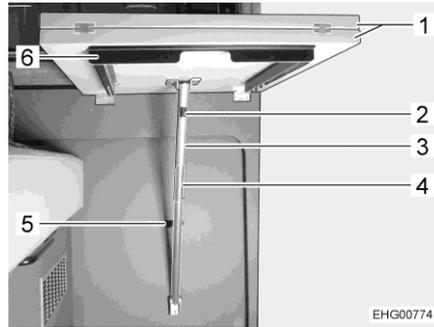
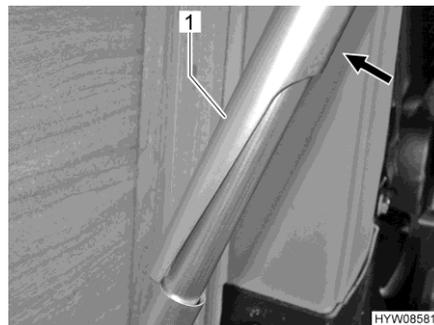

Fig. 53 Suspension table (folded)
Fig. 55 Support leg (unlocked)
- Pull out the stabilising frame (Fig. 53,6) (if present).
- Push in the stabilising frame (Fig. 53,6) (if present).
- Slightly lift the table tops (Fig. 53,1).
- Push the upper strut (Fig. 53,3 or Fig. 55,1) backwards. To do this, press on the black area (Fig. 53,2).
- Fold the table down. The upper strut slides over the lower strut (Fig. 53,4).
- Press the support into the wall holder (Fig. 53,5).